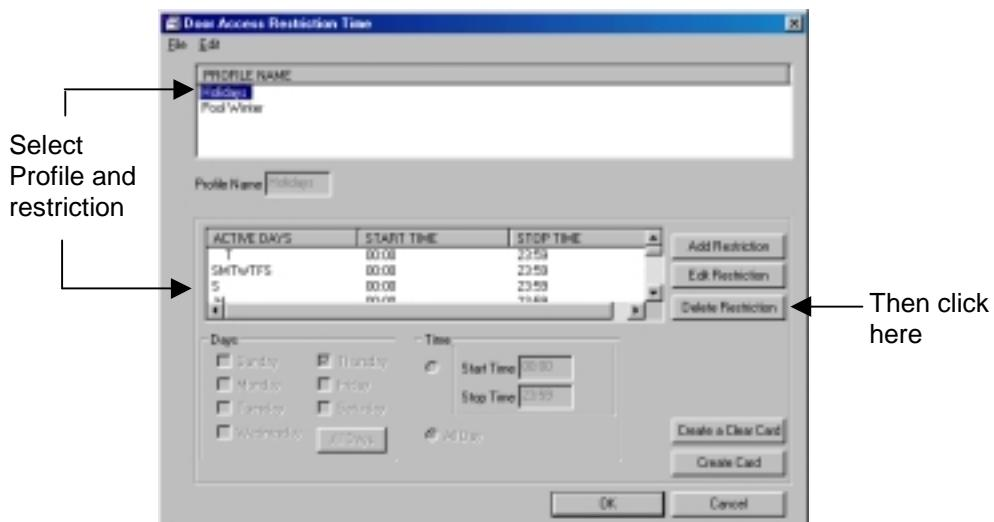

Figure 11.55 Deleting a Restriction
1. In the Door Access Restriction Time window select a profile and the restriction to delete (Figure 11.55).
2. Click the Delete Restriction button (Figure 11.55).